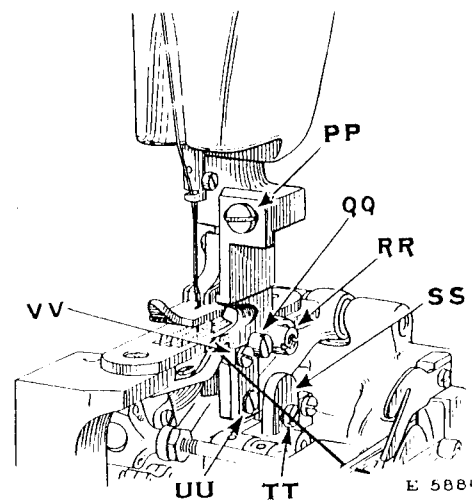
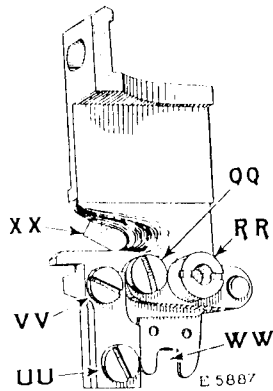
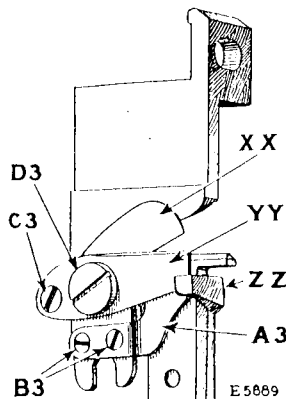

Fig. 11
Fig. 12
Fig. 13
screw (PP, Fig. 11) and the complete trimming device can then be removed. Remove the nut (RR, Fig. 12) and take out the screw (D3, Fig. 13) and remove the upper knife (XX, Fig. 13). Take out the two screws (B3, Fig. 13) and remove the chip ejector (A3, Fig. 13) from the upper knife. Take out the screw (C3, Fig. 13) and remove the lower knife (YY, Fig. 13).
(YY) then placed over it and behind the stop (ZZ, Fig. 13) and fastened in position by the screw (C3). Pass the screw (D3) through the holes in both knives, into the bracket and tighten
it just enough to allow the upper knife (XX) to move with reasonable freedom. Now fasten the nut (RR, Fig. 12) securely on the end of the screw (D3).
Replace the trimming device in the machine, having the notch (WW, Fig. 12) in the movable knife (XX) fit over the pin in the movable extension (SS, Fig. 11), and securely fasten the trimming device by means of the screw (TT, Fig. 11).
In operation, the point of the movable knife (XX) should descend just far enough to cover the point of the stationary knife (YY). If the movable knife is not in the correct position, loosen the screw (TT, Fig. 11) and move the extension (SS, Fig. 11) from you or toward you, as may be required, then securely tighten the screw (TT).
The point of the stationary knife (YY) should be level with the upper surface of the throat plate. If it is not, loosen the screw (QQ, Fig. 12) and gently tap the other end of the piece to which the knife (YY) is hinged, then securely tighten the screw (QQ). The stationary knife (YY) is held in contact with the movable knife (XX) by the bracket (ZZ, Fig. 13) and can be adjusted closer by slightly loosening the screw (VV, Fig. 12) and tightening the screw (UU, Fig. 12).
The complete trimmer can be adjusted sidewise so as to trim from $\frac{1}{16}$ to $\frac{3}{16}$ inch from the needle by moving it to the required position, after loosening the screw (PP, Fig. 11). When the trimmer has been correctly adjusted, securely tighten the screw (PP).